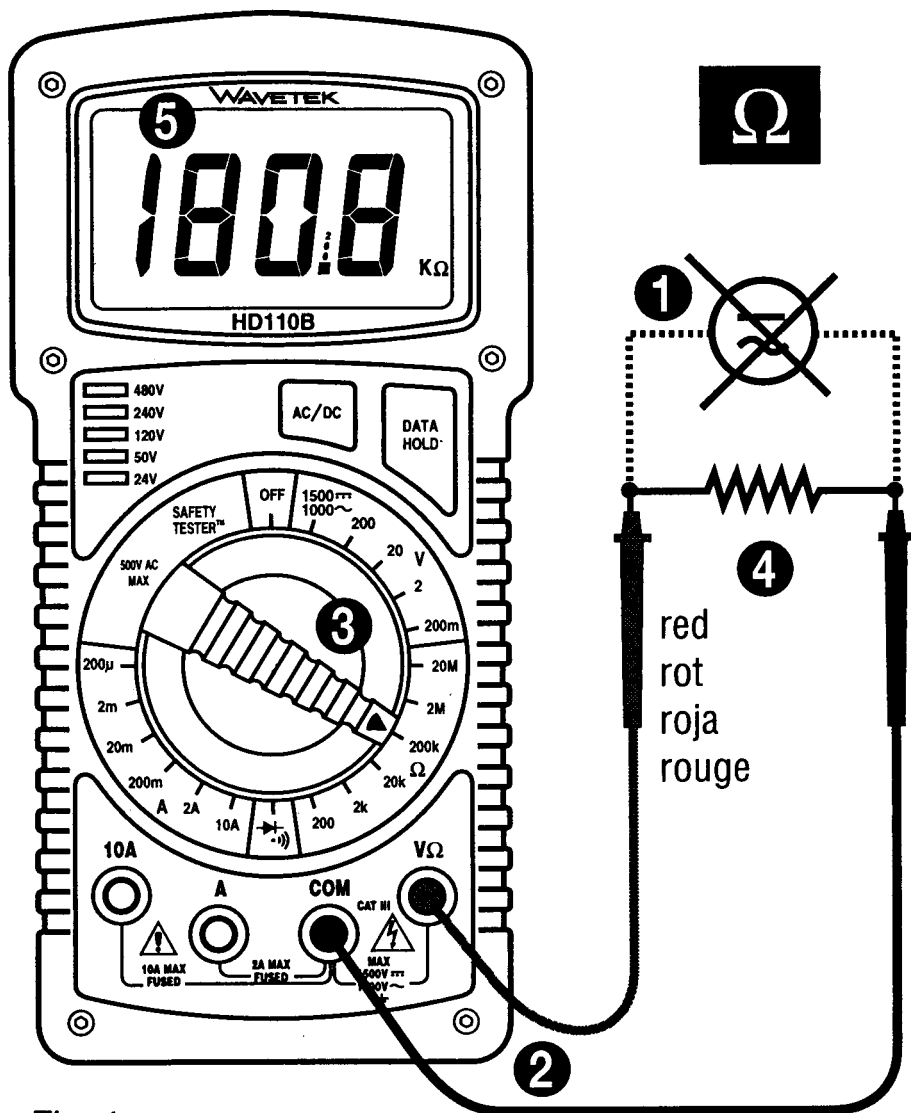

Fig. 4
RESISTANCE MEASUREMENT (See Fig. 4)
① Turn off any power to the resistance to be measured and discharge any capacitors. Any voltage present during a resistance measurement will cause inaccurate readings. ② Connect test leads to the meter as shown in figure 4. ③ Set Function/Range Switch to the desired resistance range. ④ Connect test leads to circuit being measured. ⑤ Read resistance value on Digital Display. Open circuits will be displayed as "1".
D • Widerstandsmessung (siehe Fig. 4)
E • Medidas de Resistencia (vea Fig.4)
F • Mesure de Résistance (voir fig. 4)